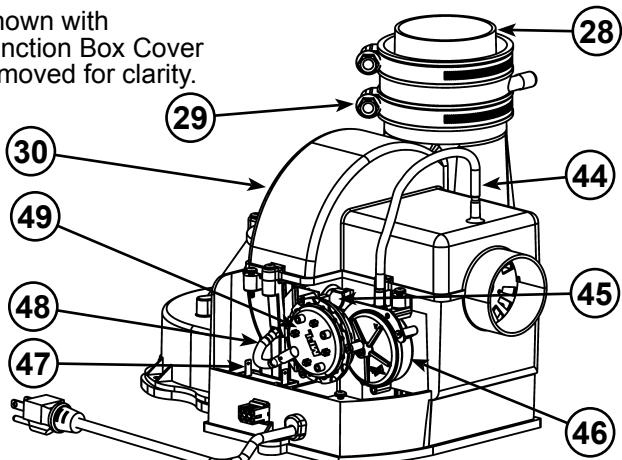

Figure 62.
- 28 \*\*\*\*Rubber Coupling (see Figure 5) (see also **Figure 62**)
- 29 Gear Clamp (see Figure 5) (see also **Figure 62**)
- 30 \*\*\*Blower with Power Cord (see Figure 5) (see also **Figure 62**)
- 44 Air Tubing (Intake) (see Figure 5) (see also **Figure 62**)
- 45 Blower High Limit Switch (see Figure 5) (see Figure 62)
- 46 Intake Air Pressure Switch (NC) (inside box) (see Figure 5) (see also **Figure 62**)
- 47 Capacitor (see Figure 5) (see also **Figure 62**)
- 48 Air Tubing (Exhaust) (see Figure 5) (see also **Figure 62**)
- 49 Exhaust Air Pressure Switch (NO) (inside box) (see Figure 5) (see also **Figure 62**)